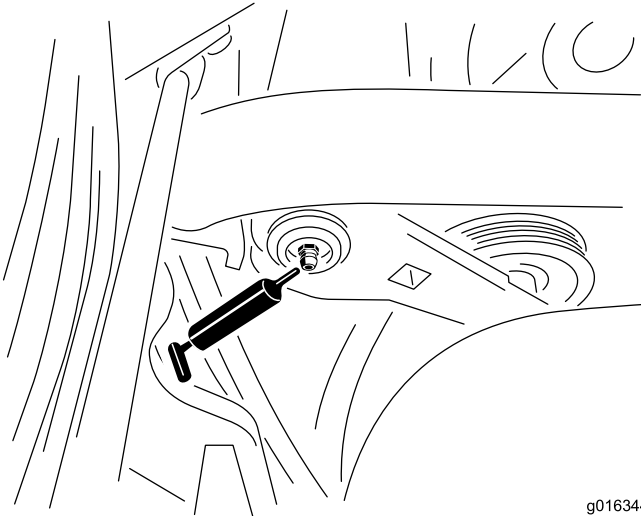

Figure 26
1. Wipe the grease fitting clean so that you do not force foreign matter into the bearing or bushing (Figure 26).